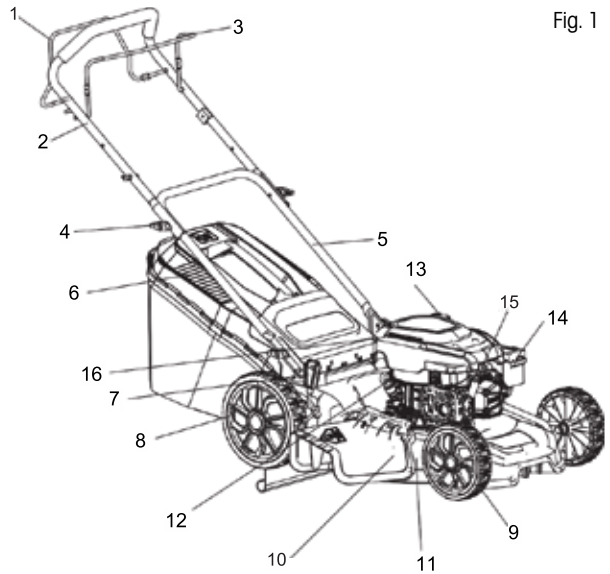

Fig. 1
3. DESCRIPTION OF PRODUCT PARTS (Fig. 1)
As shown in Fig. 1